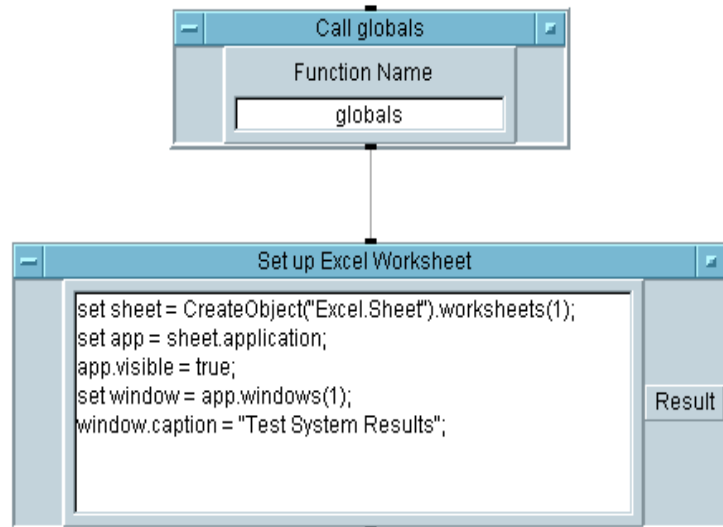

Figure 6-6. Setting Up the MS Excel Worksheet
8. Inside `Set up Excel Worksheet`, enter the lines shown in Figure 6-6. Notice that semicolons are used for line separators, just as in ANSI C.